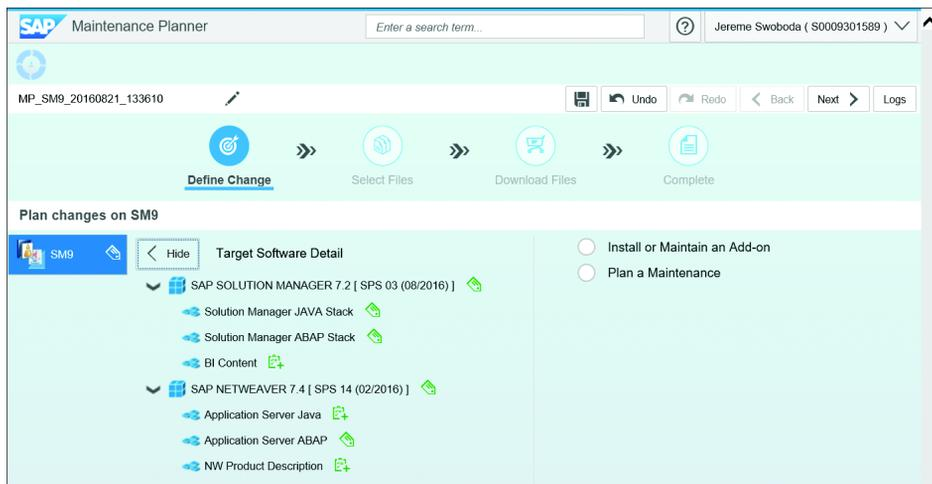

Figure 33 Upgrade Target Verification Screen
2. Once file calculation is complete, the screen in Figure 33 displays. Review the list of the TARGET SOFTWARE DETAIL to be installed.